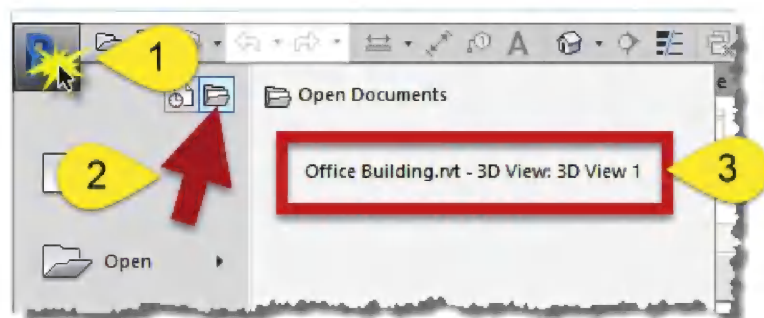

FIGURE 1-3.4 Application Menu: Open Documents view
The *Application Menu* lists the projects and views currently open on your computer (Figure 1-3.4).
4. Click **Application Menu → Open Documents (icon)** (Figure 1-3.4).